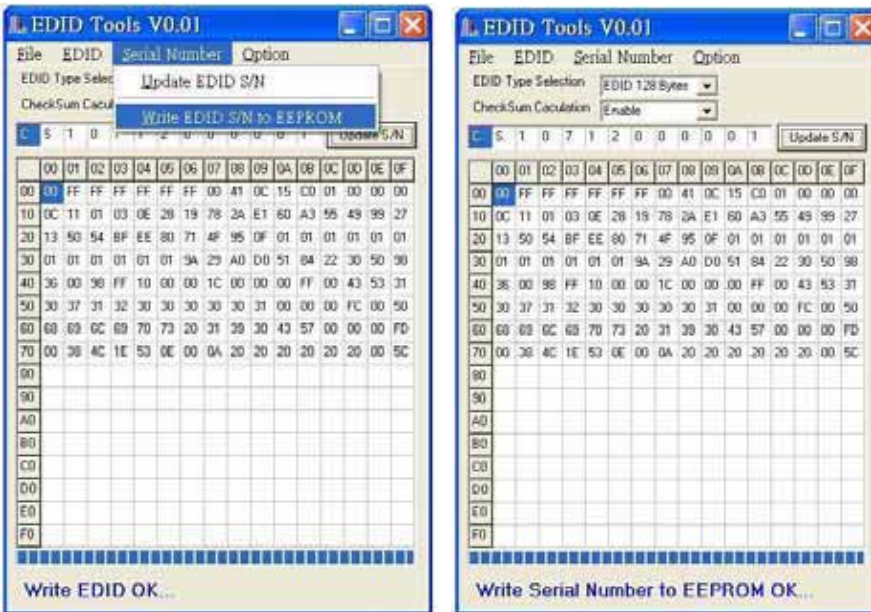

Fig.10
7. Enter Factory Mode then Press the Serial Number->Write EDIDS/N to EEPROM as shown in Fig.10